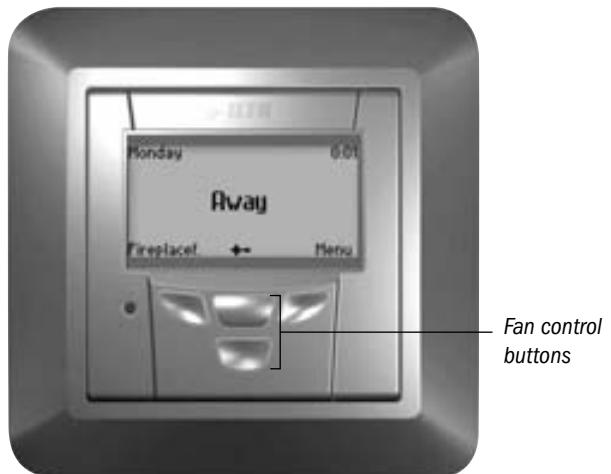

Figure 1.
1. Start the ventilation unit and set the ventilation output from the control panel (Figure 1) by pressing the fan control buttons (+ and -). Under normal operating conditions, the ventilation output should be set to the At Home setting. Before starting up the ventilation unit, check that no condensate has collected inside the unit during the period when it was in storage.